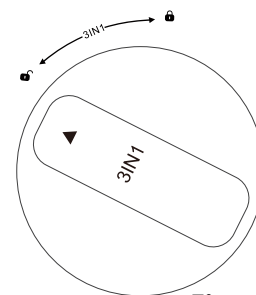

Figure 4
2. Insert the 3IN1 Cartridge in upper hole, the triangle icon on top of filter element should be pointed at the icon  **figure 4**.